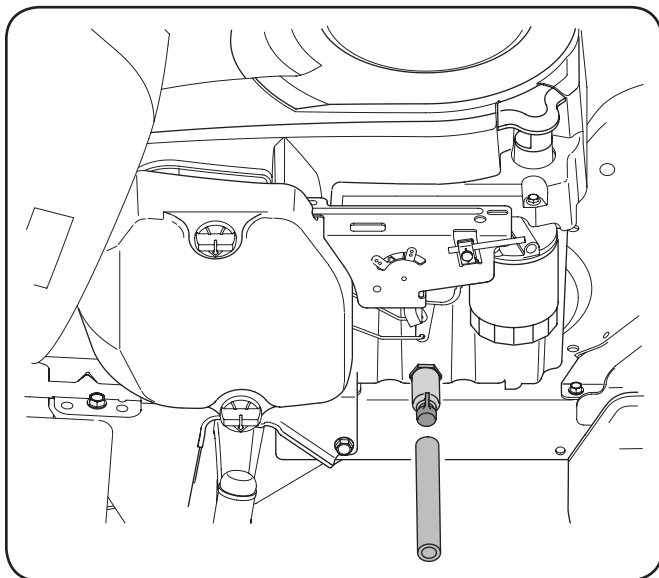

Figure 6-1
3. Pop open the protective cap on the end of the oil drain valve to expose the drain port. See Fig 6-1.